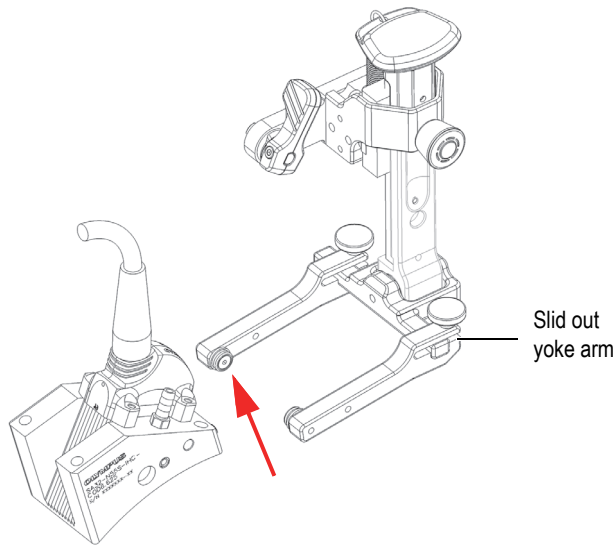

Figure 2-19 Aligning the wedge pivot hole with the yoke arm button
3. To reinstall a probe/wedge assembly, align the wedge pivot holes with the button of the yoke arm that is not slid out (Figure 2-19 on page 50).